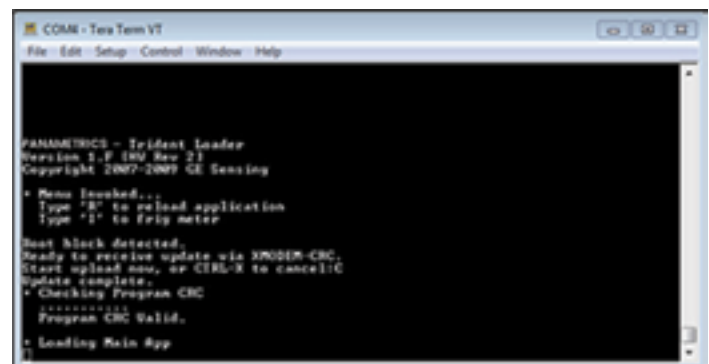

Figure 86: Update complete message in Tera Term
4. After the file transfer is complete, the Tera Term terminal window will appear as in *Figure 86* below, and the meter will start up.